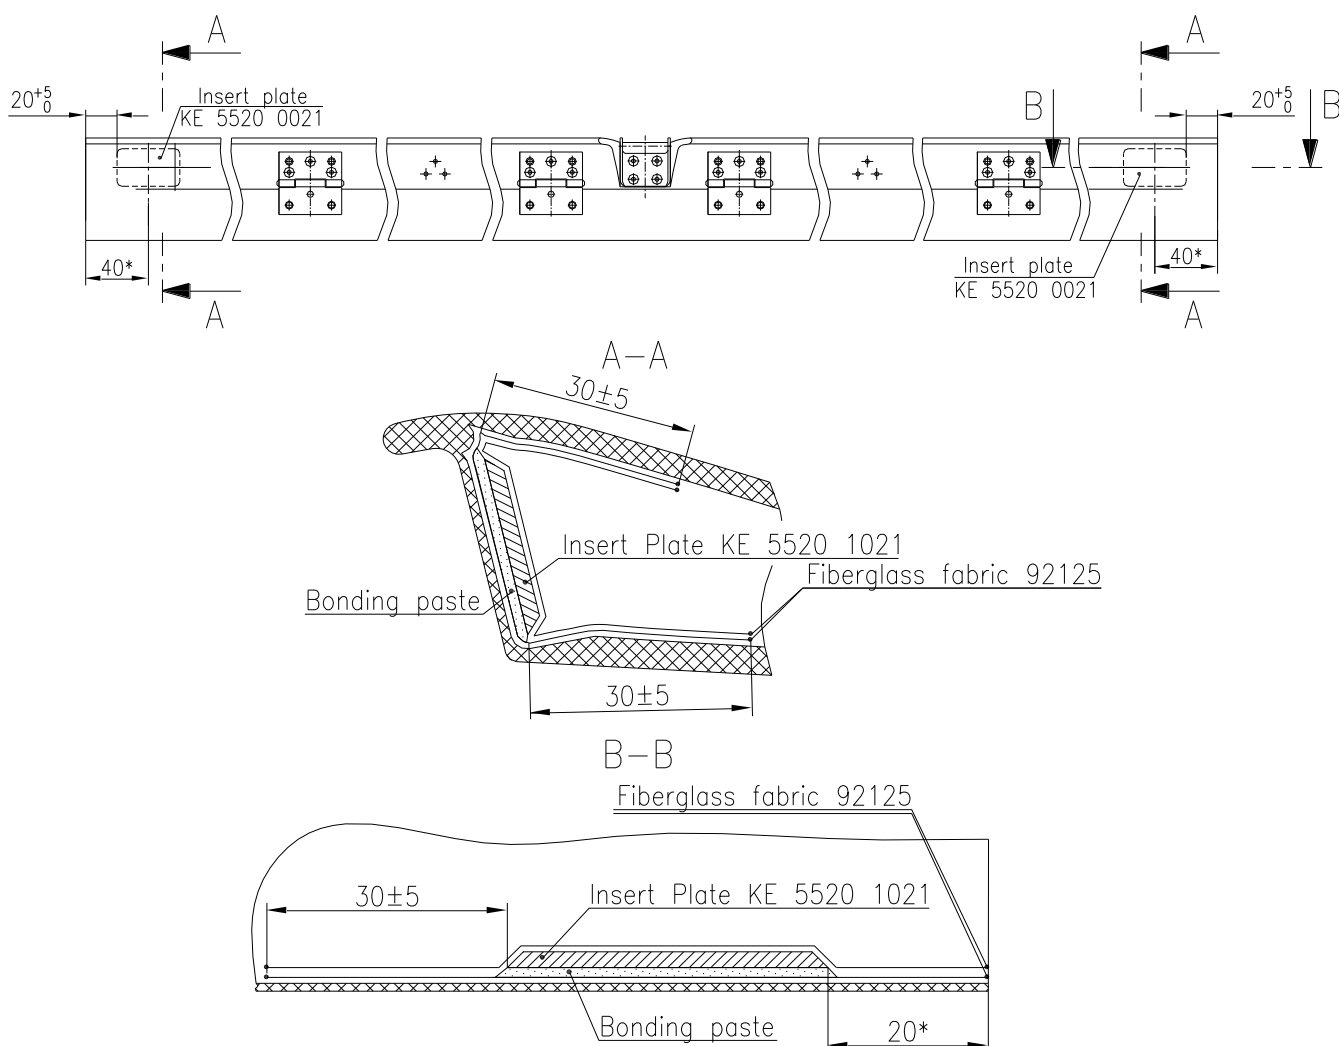

Fig. 3-14
Mark the places of the Insert Plates KE 5520 1021 i.a.w. Fig. 3-14.
Prepare the inside surface of the shortened Trim Tab in places where the new Insert Plates KE 5520 1021 will be glued-in and the fiberglass fabric are laid up (Refer to 3.2.1). Sizes of the preparation area are 30 mm over the each new Insert Plate KE 5520 1021 in all directions (Fig. 3-14).
Paint the prepared surface with pure resin and lay up one layer of Fiberglass fabric 92125, 90mm (spanwise) x 80mm, fiber orientation $\pm 90^\circ$, on the inner skin of the Trim Tab in the area of the Insert plates gluing-in as shown in Fig. 3-14. Use a brush to remove all trapped air and make sure that the fabric is completely impregnated with resin.
- Note:** Install the Insert Plates KE 5520 1021 exactly as shown on Fig. 3-14, section B-B; pay attention to the facets position. Check the distance between the Insert Plates edges and Trim Tab ends is 20 mm as per Fig. 3-14).